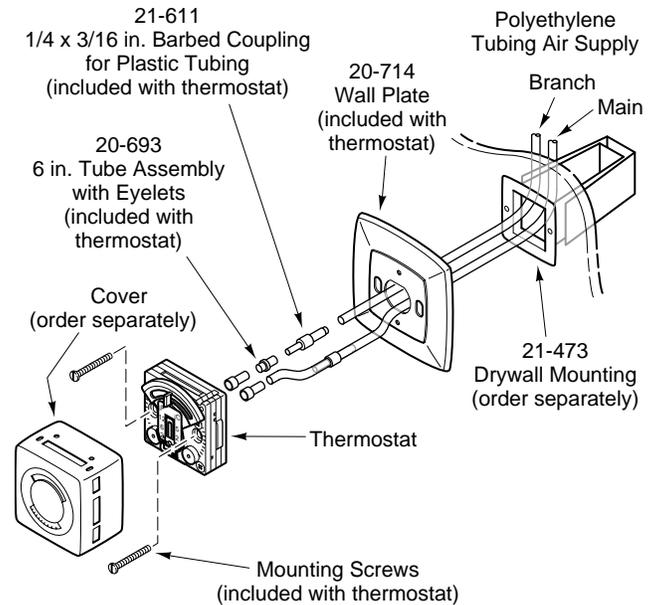

Figure-2 Flush Mounting of Thermostat,
1. Mount the thermostat according to the applicable figure (Figure-2 through Figure-8). See Figure-10 for mounting dimensions.